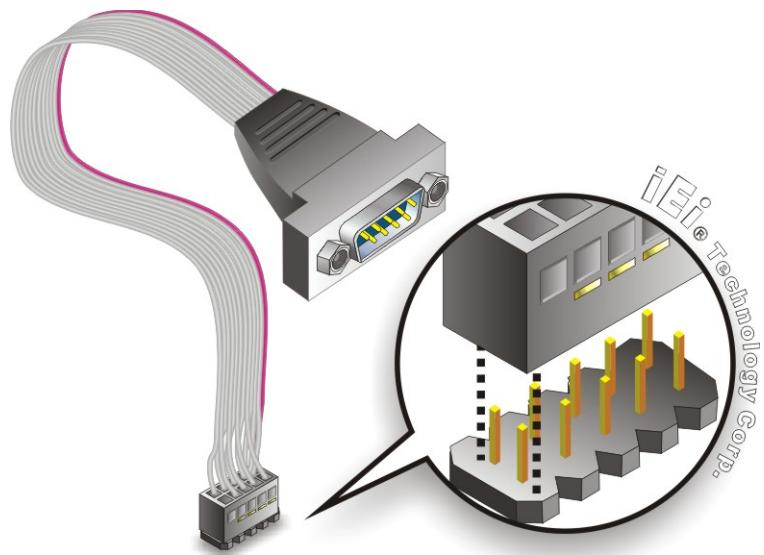

Figure 4-12: Single RS-232 Cable Installation
Step 2: Insert the cable connector. Insert the connector into the serial port box header. See Figure 4-12. A key on the front of the cable connectors ensures the connector can only be installed in one direction.